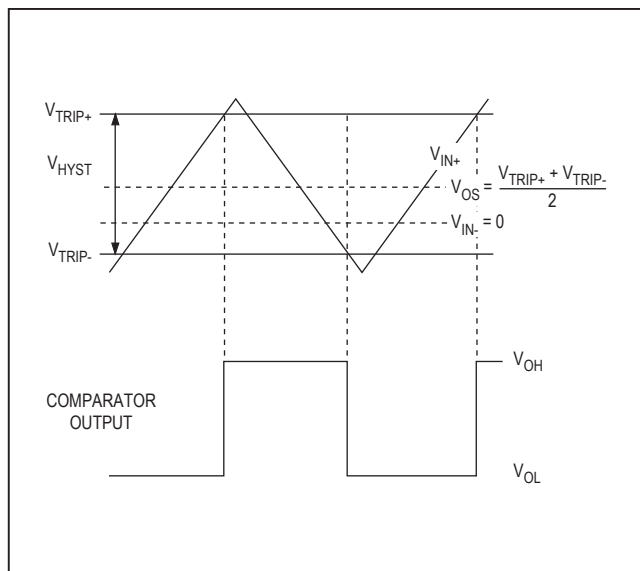

Figure 1. Input and Output Waveform, Noninverting Input Varied
**Note 4:**  $V_{OS}$  is defined as the center of the input-referred hysteresis zone. See Figure 1.
**Note 5:** The input-referred trip points are the extremities of the differential input voltage required to make the comparator output change state. The difference between the upper and lower trip points is equal to the width of the input-referred hysteresis zone. See Figure 1.
The hysteresis in a comparator creates two trip points: one for the rising input voltage and one for the falling input voltage (Figure 1). The difference between the trip points is the hysteresis. The average of the trip points is the offset voltage. When the comparator's input voltages are equal, the hysteresis effectively causes one comparator input voltage to move quickly past the other, thus taking the input out of the region where oscillation occurs. Standard comparators require hysteresis to be added with external resistors. The devices' fixed internal hysteresis eliminates these resistors. To increase hysteresis and noise margin even more, add positive feedback with two resistors as a voltage divider from the output to the noninverting input.
Figure 1 illustrates the case where  $IN^-$  is fixed and  $IN^+$  is varied. If the inputs were reversed, the figure would look the same, except the output would be inverted.